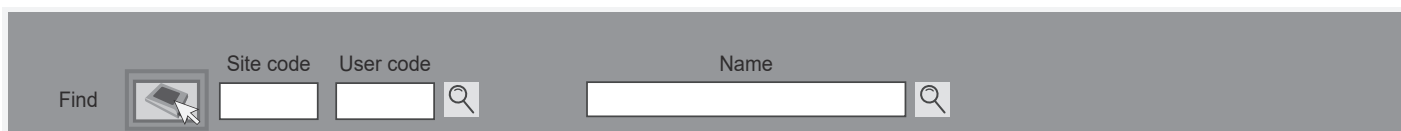

Fig. 64
- First click on the desktop prox icon to the left of the **site code** field at the top of the prox screen, as shown in Fig.64.